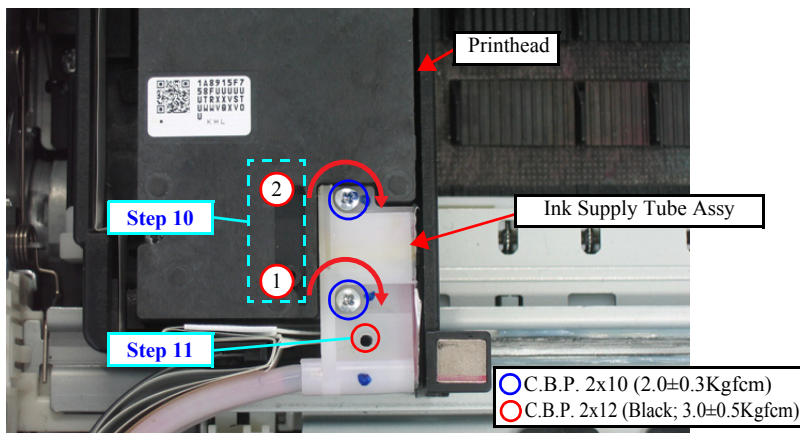

Figure 4-68. Assembling the Printhead (7)
If the joint of the Printhead and the Ink Supply Tube Assy is not disconnected, simply tighten the screw shown in Fig. 4-68 without using the jig.
10. Tighten the loosened screws (x2) in Step 9 in the order shown in Fig. 4-68 by 180 degrees.